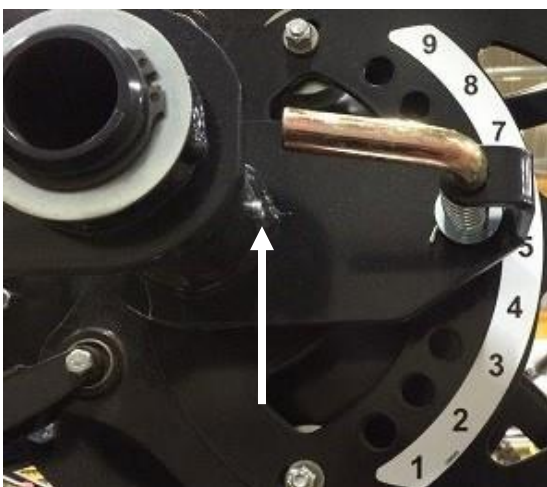

Figure 201
6. Check the bushings in the mount assembly. If there is wear on the bushings replace the bushings. There should be a grease fitting on the mounting tube. This grease fitting will lubricate both bushings. If a plug is present and not a fitting replace the plug with a 45 degree fitting. Figure 201